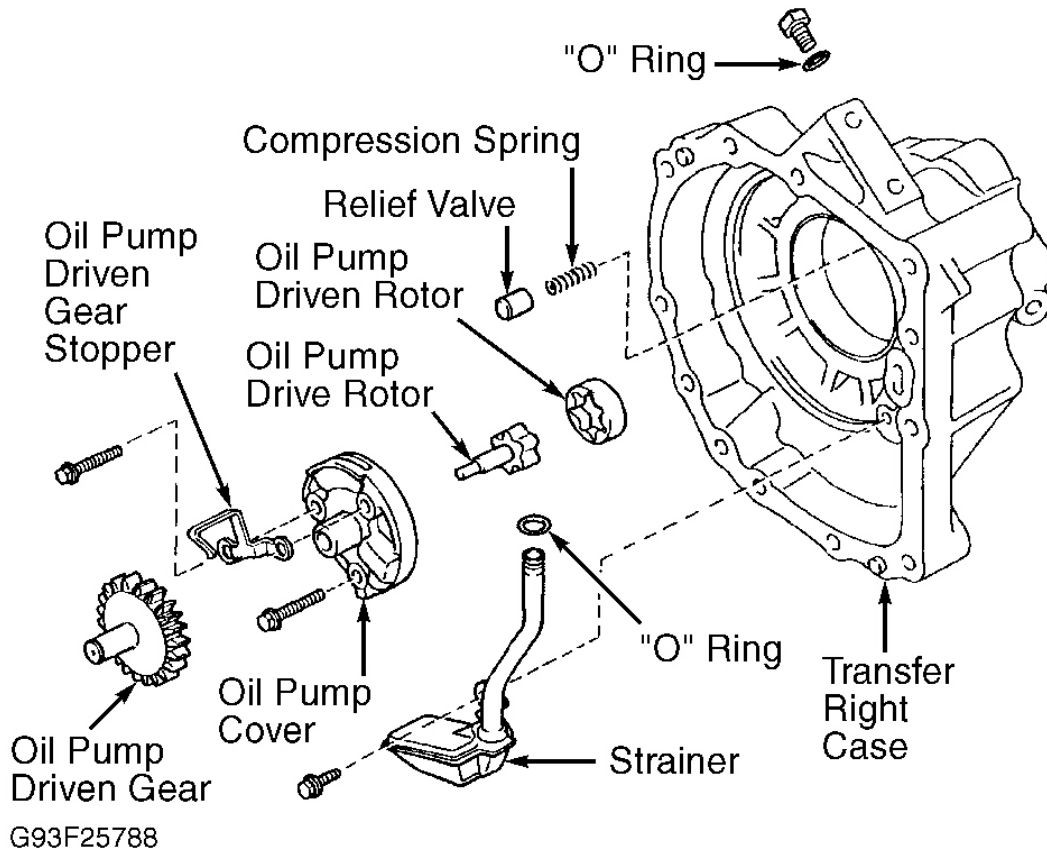

Fig. 55: Exploded View Of Transfer Right Case (A-241H Shown; A-540H Is Similar)
2. Remove oil pump driven gear stopper. Remove oil pump cover, drive rotor and driven rotor. Remove relief valve and spring. See **Fig. 55**.